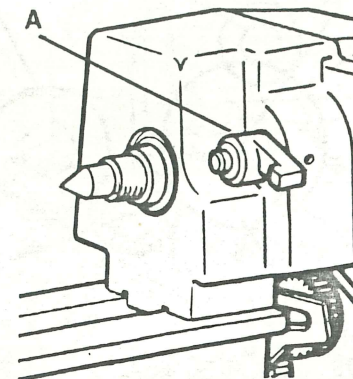

FIGURE 8
4. Move back gear lever (A Figure 8), on rear of headstock, up to engage gears. It may be necessary to rotate pulley by hand so gears will mesh.
3. Move back gear lever (A Figure 8) down to disengage gears.